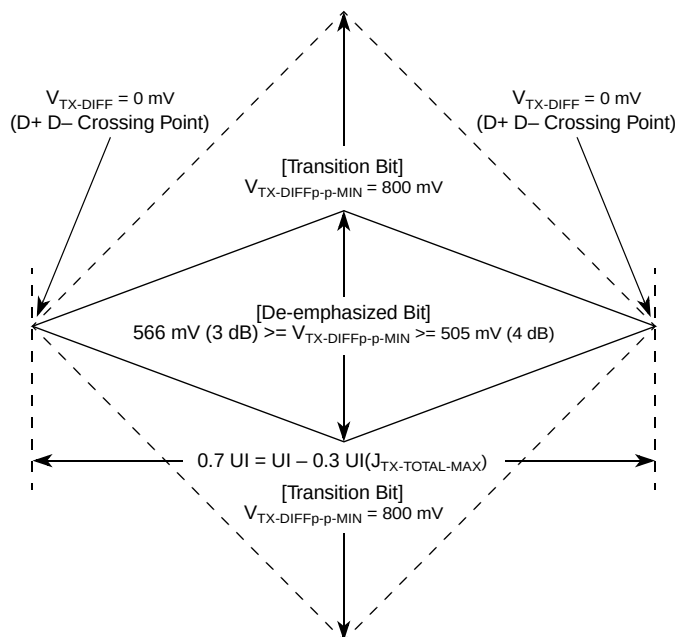
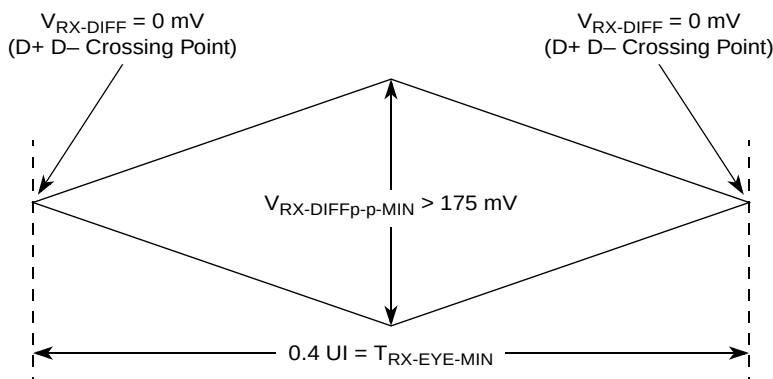
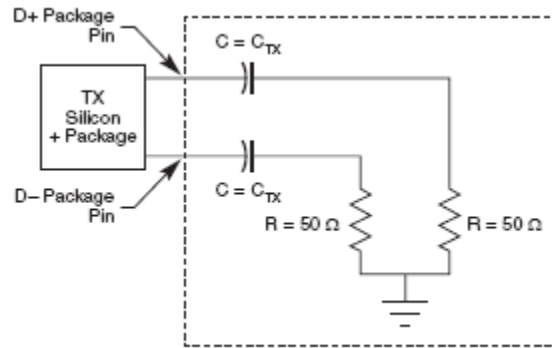

Figure 50. Minimum Transmitter Timing and Voltage Output Compliance Specifications
Figure 51. Minimum Receiver Eye Timing and Voltage Compliance Specification
Figure 52. Compliance Test/Measurement Load
2. Specified at the measurement point into a timing and voltage compliance test load as shown in Figure 52 and measured over any 250 consecutive TX UIs. (Also refer to the transmitter compliance eye diagram shown in Figure 50.)
4. The transmitter input impedance shall result in a differential return loss greater than or equal to 12 dB and a common mode return loss greater than or equal to 6 dB over a frequency range of 50 MHz to 1.25 GHz. This input impedance requirement applies to all valid input levels. The reference impedance for return loss measurements is 50 Ω to ground for both the D+ and D- line (that is, as measured by a vector network analyzer with 50- Ω probes, see Figure 52). Note that the series capacitors, C_{TX} , is optional for the return loss measurement.
5. Measured between 20%–80% at transmitter package pins into a test load as shown in Figure 52 for both V_{TX-D+} and V_{TX-D-} .
The TX eye diagram in Figure 50 is specified using the passive compliance/test measurement load (see Figure 52) in place of any real PCI Express interconnect + RX component. There are two eye diagrams that must be met for the transmitter. Both diagrams must be aligned in time using the jitter median to locate the center of the eye diagram. The different eye diagrams differ in voltage depending on whether it is a transition bit or a de-emphasized bit. The exact reduced voltage level of the de-emphasized bit is always relative to the transition bit.
2. Specified at the measurement point and measured over any 250 consecutive UIs. The test load in Figure 52 should be used as the RX device when taking measurements (also refer to the receiver compliance eye diagram shown in Figure 51). If the clocks to the RX and TX are not derived from the same reference clock, the TX UI recovered from 3500 consecutive UI must be used as a reference for the eye diagram.
4. The receiver input impedance shall result in a differential return loss greater than or equal to 15 dB with the D+ line biased to 300 mV and the D- line biased to -300 mV and a common mode return loss greater than or equal to 6 dB (no bias required) over a frequency range of 50 MHz to 1.25 GHz. This input impedance requirement applies to all valid input levels. The reference impedance for return loss measurements for is 50 Ω to ground for both the D+ and D- line (that is, as measured by a vector network analyzer with 50- Ω probes, see Figure 52). Note that the series capacitors, C_{TX} , is optional for the return loss measurement.
The RX eye diagram in Figure 51 is specified using the passive compliance/test measurement load (see Figure 52) in place of any real PCI Express RX component. In general, the minimum receiver eye diagram measured with the compliance/test measurement load (see Figure 52) is larger than the minimum receiver eye diagram measured over a range of systems at the input receiver of any real PCI Express component. The degraded eye diagram at the input Receiver is due to traces internal to the package as well as silicon parasitic characteristics which cause the real PCI Express component to vary in impedance from the compliance/test measurement load. The input receiver eye diagram is implementation specific and is not specified. RX component designer should provide additional margin to adequately compensate for the degraded minimum Receiver eye diagram (shown in Figure 51) expected at the input receiver based on an adequate combination of system simulations and the return loss measured looking into the RX package and silicon. The RX eye diagram must be aligned in time using the jitter median to locate the center of the eye diagram.
The reference impedance for return loss measurements is 50 Ω to ground for both the D+ and D- line (that is, as measured by a Vector Network Analyzer with 50 Ω probes—see Figure 52). Note that the series capacitors, $C_{PEACCTX}$, are optional for the return loss measurement.
The AC timing and voltage parameters must be verified at the measurement point, as specified within 0.2 inches of the package pins, into a test/measurement load shown in Figure 52.